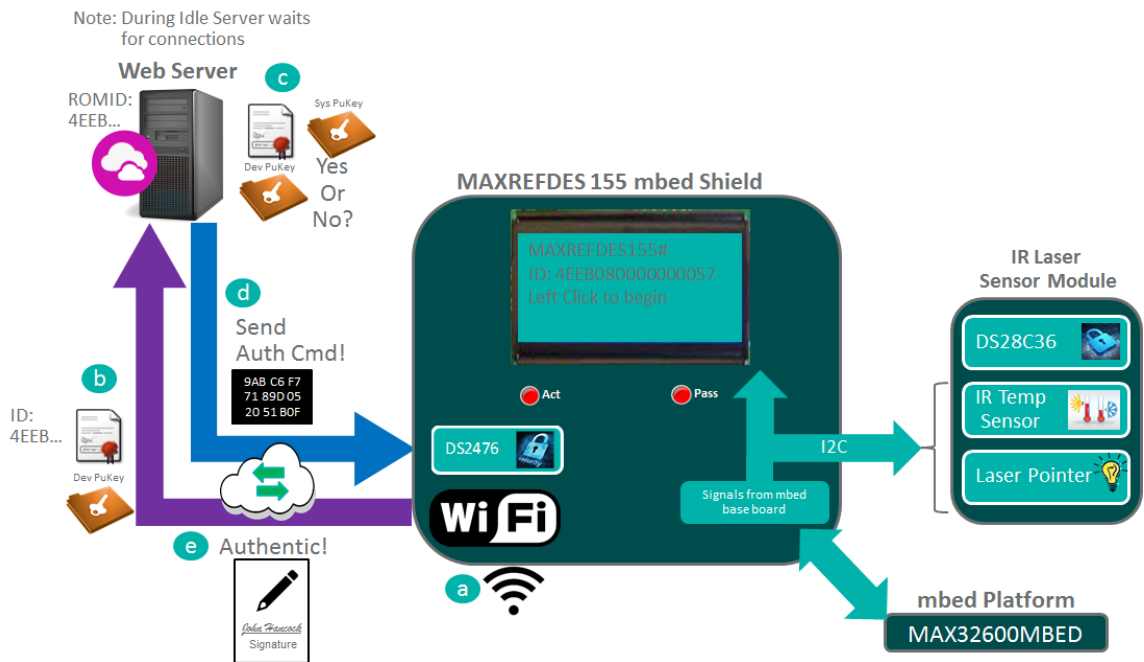

Figure 15. Establishing the setup connection to the web server.
11. To summarize, if everything is correct the following (as illustrated in **Figure 15**) shows what occurred to establish a secure connection to the Web Server: